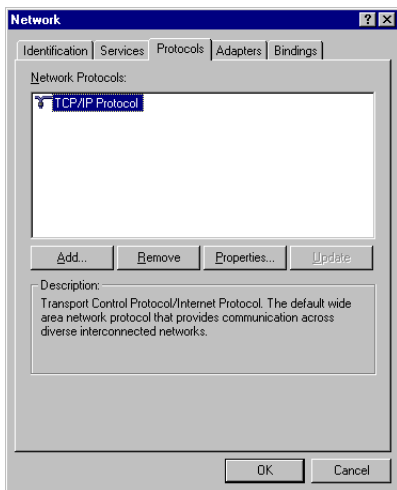

Figure 4-1 Network Protocols
3. View the Protocols tab of the Network window and highlight the “TCP/IP Protocol” item in the list. Then, click on the “Properties” button. Refer to Figure 4-1.